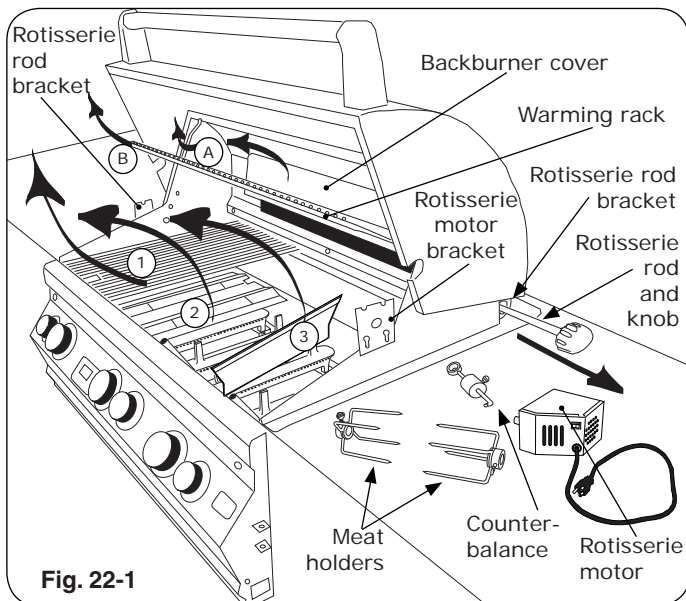

Fig. 22-1
3. Remove rotisserie rod from rear bracket (Fig. 22-1) attach knob if necessary.